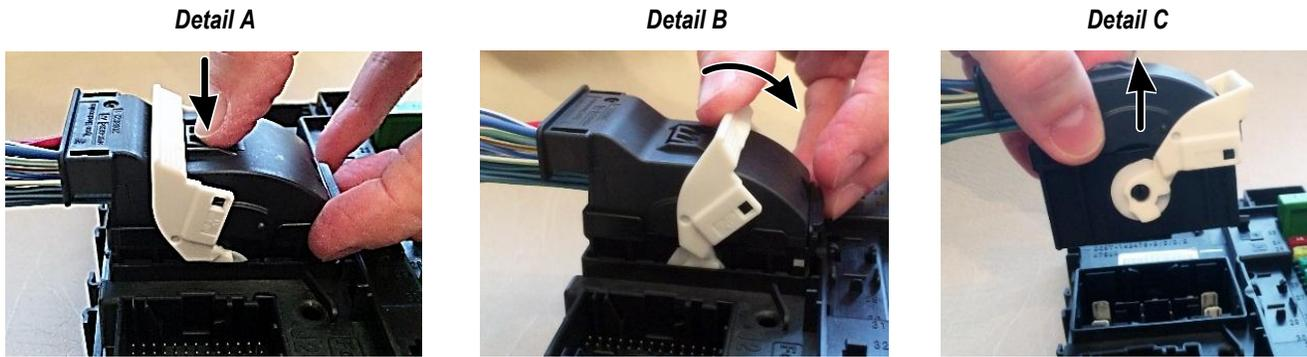

Figure 5
1. Press the lever locking latch of the wire dress cover. See Figure 5, Detail A.
2. Rotate the rotating locking lever over the lever locking latch until it cannot be rotated any further. The rotating locking lever is now in the open (unlocked) (horizontal) position. See Figure 5, Detail B.
3. Pull the plug straight away from the interface assembly. See Figure 5, Detail C.